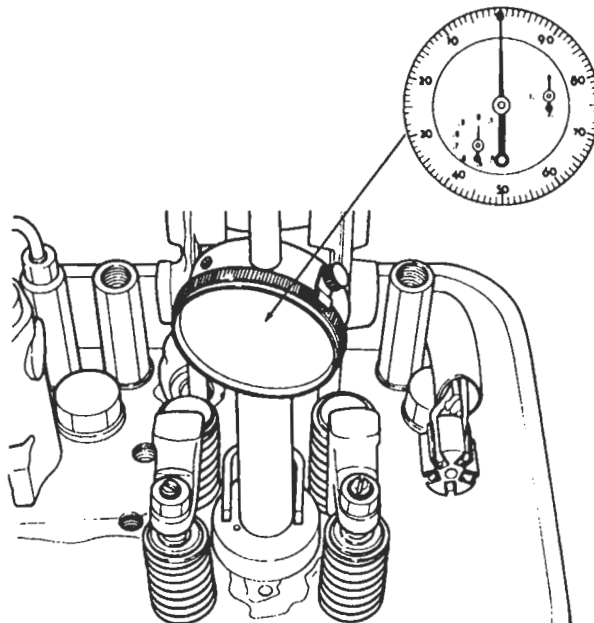

Figure 4. Dial Indicator Calibration
- e. Before piston downward travel can be measured, the dial indicator must be "zeroed". Loosen the clamp screw and remove the slotted spacer. Lower the dial indicator until the two smaller indicator hands are at "0" and the large hand is near "0" (Figure 4.)